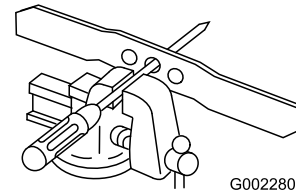

Figure 26
1. Check the balance of the blade by placing the center hole of the blade over a nail or screwdriver shank clamped horizontally in a vise (Figure 26).